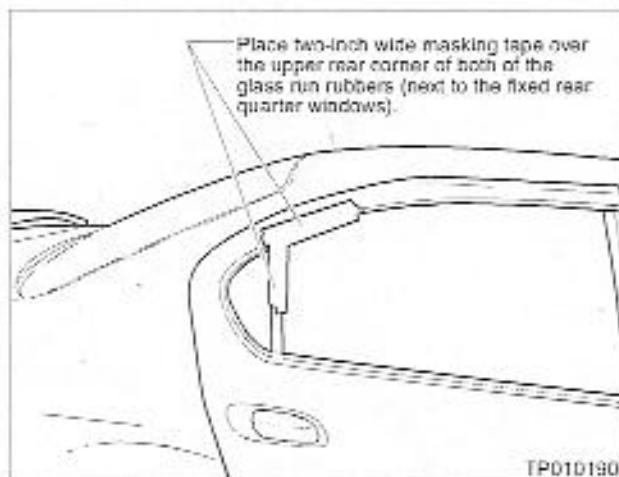

Figure 1
There may be too much clearance between the rear door glass run rubber and top corner of the window partition sash (next to the fixed quarter window) causing a wind leak. See Figure 1 for location.
2. If the wind noise is heard during the road test, place two-inch wide masking tape over the upper rear corner of both of the glass run rubbers - next to the fixed rear quarter windows. See Figure 1.